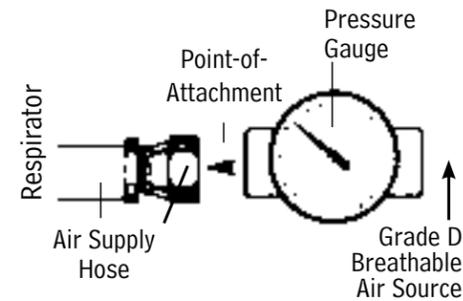

Figure 2
- Adjust the air pressure at the point-of-attachment to within the approved pressure range (Figure 2).